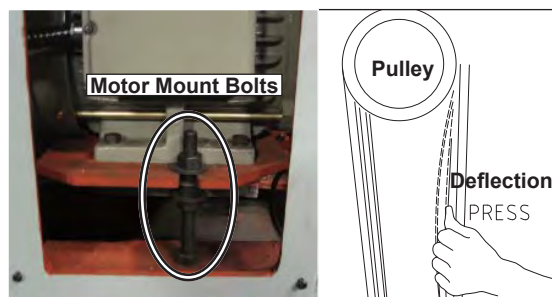

Figure 81. V-belt adjustment.
3. Turn the hex nuts on the motor mount bolts shown in Figure 81 to move the motor mount plate up or down and adjust the V-belt tension. When correctly tensioned, each belt should have about 19mm deflection when pressed firmly.